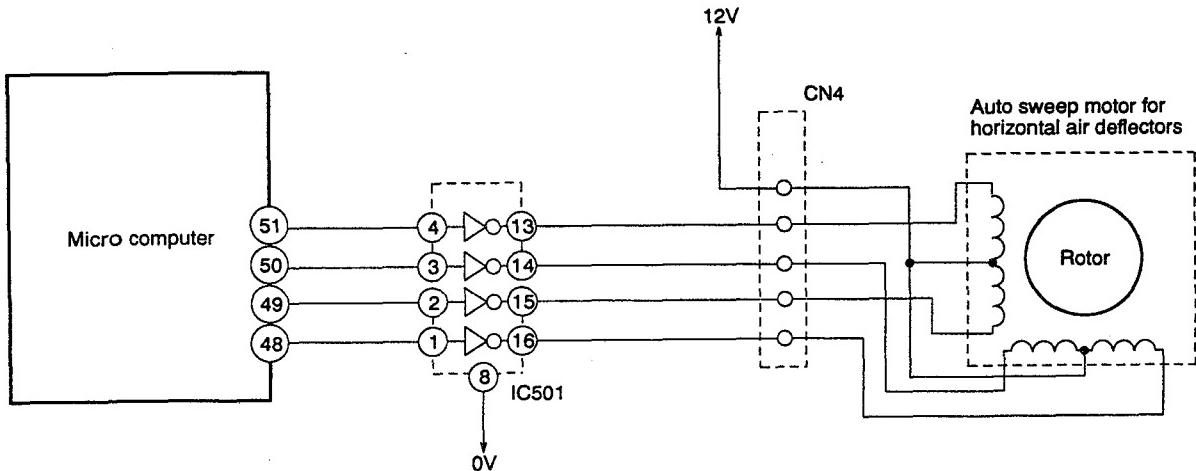
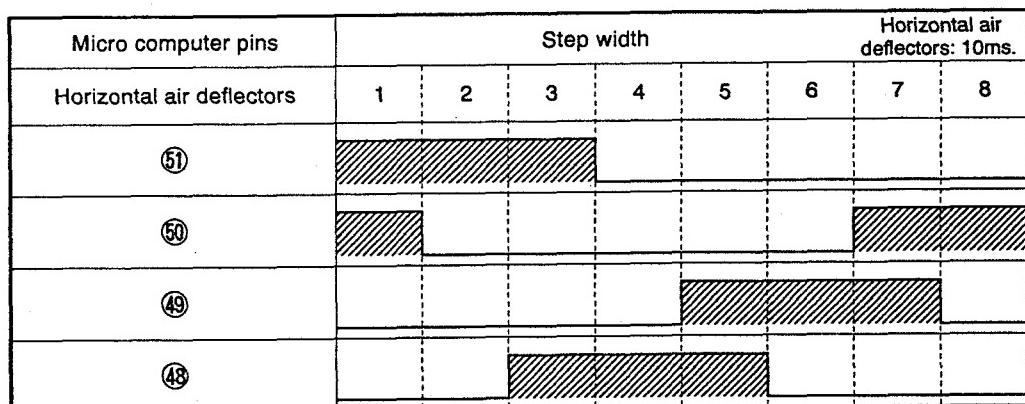

Fig. 4-1 Auto Sweep Motor Circuit (Horizontal air deflectors)
Fig. 4-2 Micro computer Output Signals
- Fig. 4-1 shows the Auto sweep motor drive circuit; the signals shown in Fig. 4-2 are output from pins ④⑧ – ⑤① of the micro computer.
- As the micro computer's outputs change as shown in Fig. 4-2, the core of the auto sweep motor is excited to turn the rotor. Table 4-1 shows the rotation angle of horizontal air deflectors.